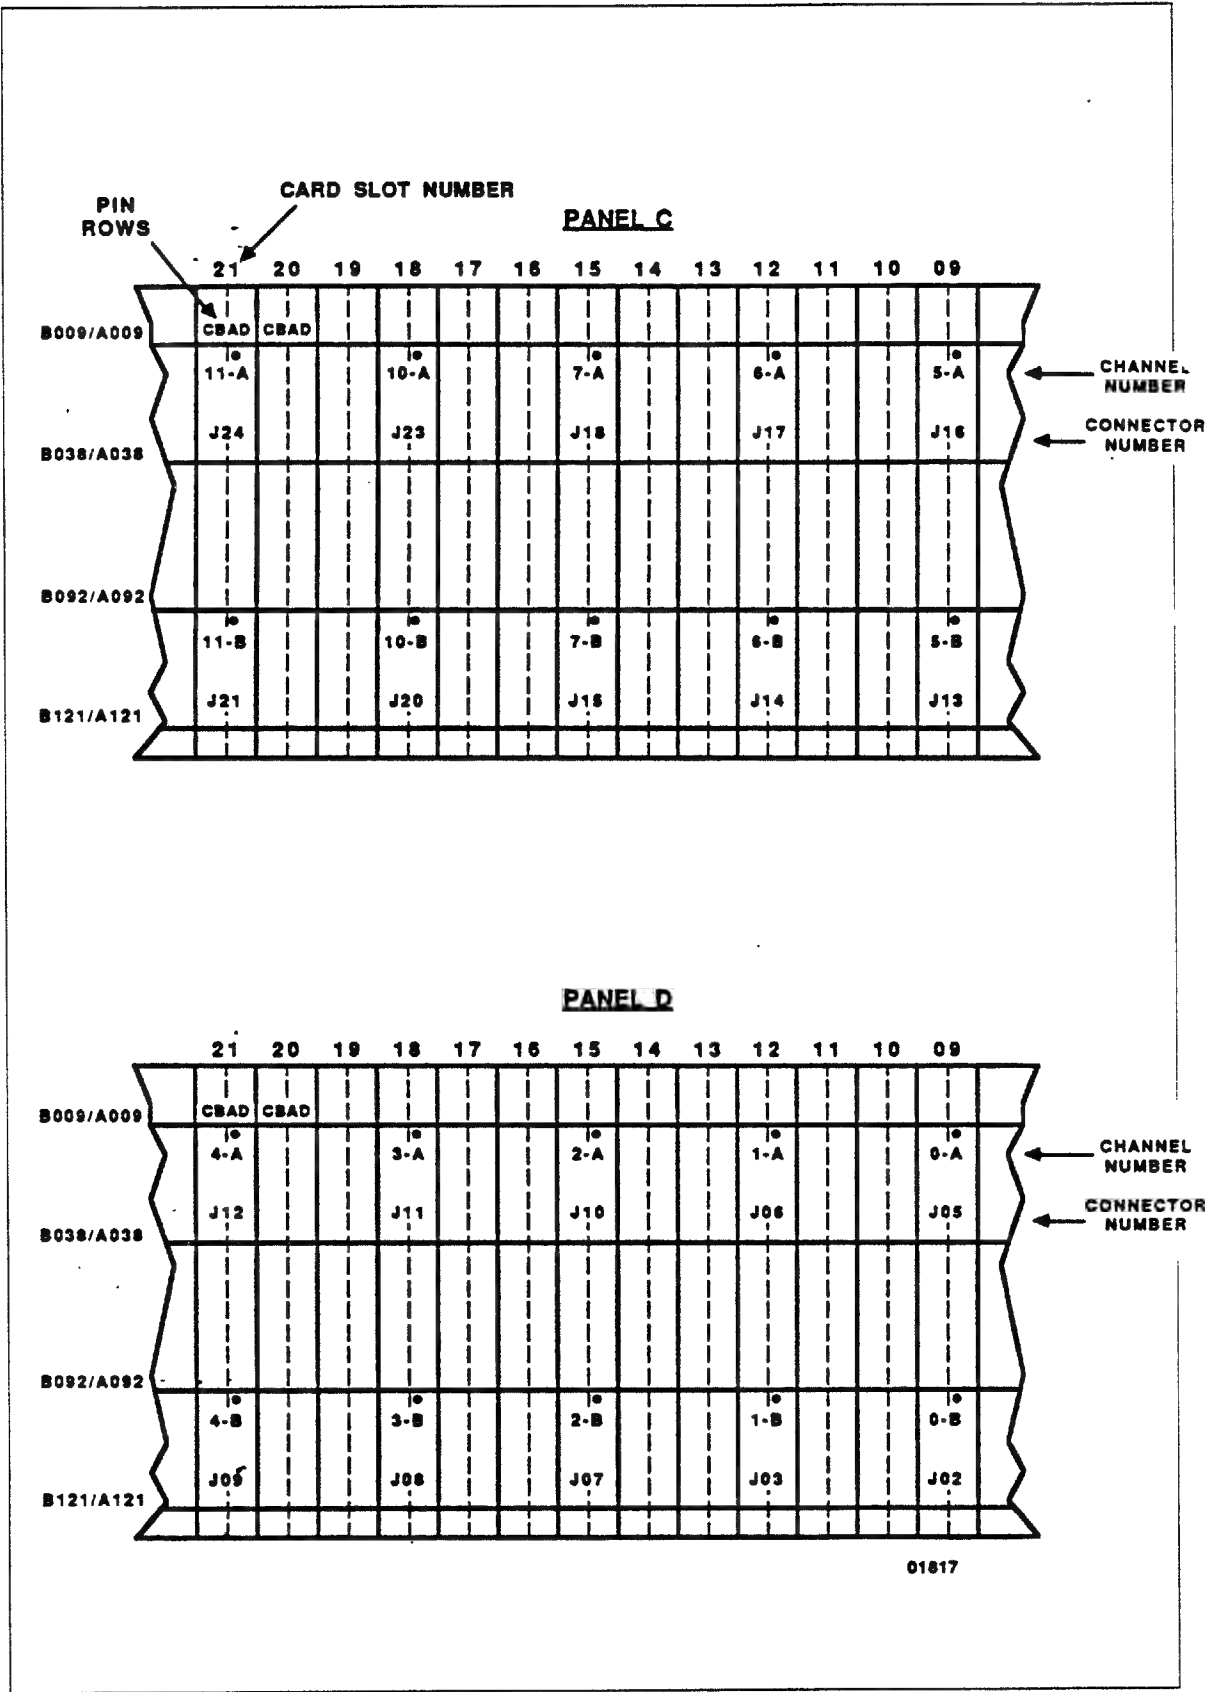

Figure 7-5. ISI/IPI Channel Backpanel Pin Location
- ___ b. Plug A Berg connector on to backpanel pins rows BA of channel location determined by figure 7-5. Top of connector plugs on to pin 9.